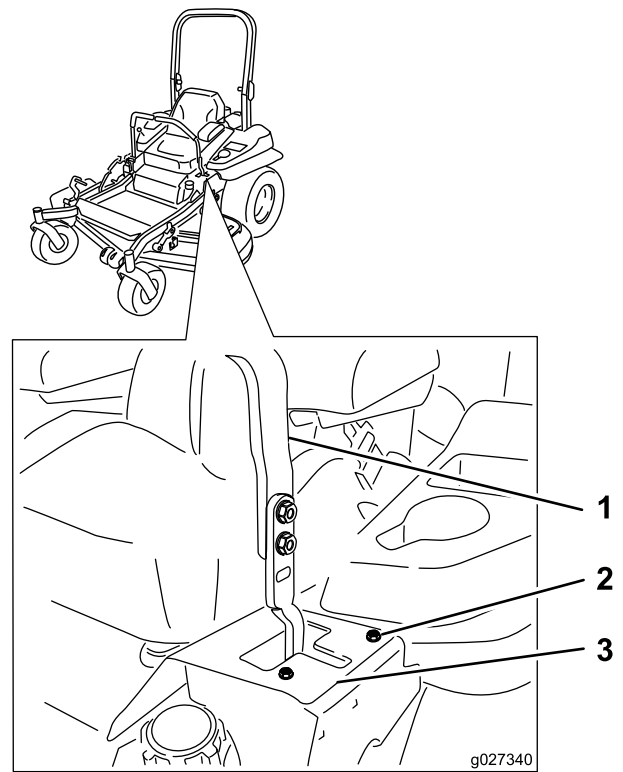

Figure 66
6. If it tracks to the right, loosen the bolts and adjust the left stop plate rearward on the left T-slot until the machine tracks straight (Figure 66).
7. If it tracks to the left, loosen the bolts and adjust the right stop plate rearward on the right T-slot until the machine tracks straight (Figure 66).
8. Tighten the stop plate (Figure 66).